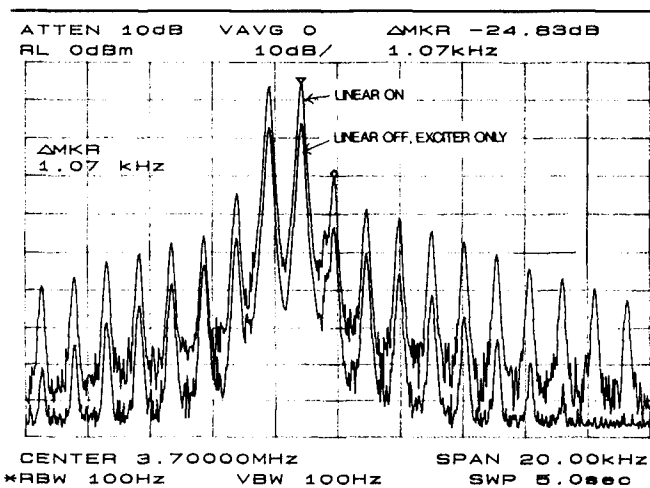

Fig 4—Two-tone intermod
c) Two Tone—a 1.2-kHz and a 2.2-kHz tone of equal level are injected into the exciter under the same conditions as before. In Fig 4 the two test tones are the two highest level spectral lines at approximately 1.2 and 2.2 kHz below the (suppressed) carrier frequency. All the other spectral lines above and below the carrier frequency are the intermodulation products. The difference in the level of the intermodulation products between the exciter and the linear can be seen. Recall that the linear should appear as a “transparent” 10-dB gain block; in this case it does not as the intermod products at ± 4 kHz show an on/off difference of >10 dB. Thus the intermod is determined by the linearity of the amplifier and not the exciter. Also note that the bandwidth of the signal is now rather wide; the -60 dBc (level with respect to the carrier) points are 18 kHz wide.
The caption under Fig 4 should read: A graph of Something varying over Time (also known as a function). **Corrigendum** on page 14. ("Measuring the Mass of the Earth," originally published in the September 1991 issue of *QEX*.) This update was sent in by the article's author, H. Paul Shuch, N6TX. Also, the fraction 1/150th, which appears on line 17, should read 1/50th.